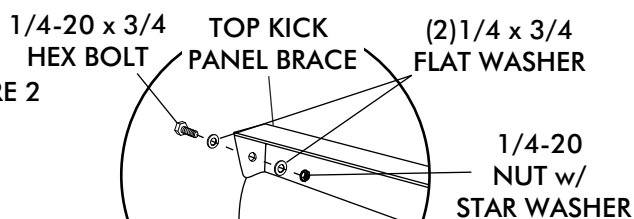

FIGURE 2a
- ☐ RE-SECURE TOP KICK PANEL BRACE USING 1/4-20 x 3/4 HEX BOLT, (2) 1/4 x 3/4 FLAT WASHERS AND 1/4-20 NUT w/ STAR WASHER AS SHOWN IN FIGURE 2a.